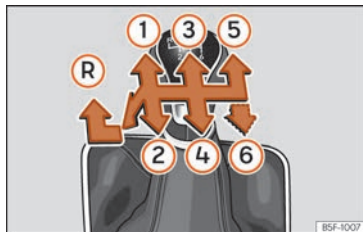

Fig. 89 Gear shift pattern of a 5 or 6-speed manual gearbox.
Gear positions are indicated on the gear lever »» Fig. 89.
- With the gear lever in neutral, push it down, move it all the way to the left and then forwards to select reverse gear »» Fig. 89 (R).